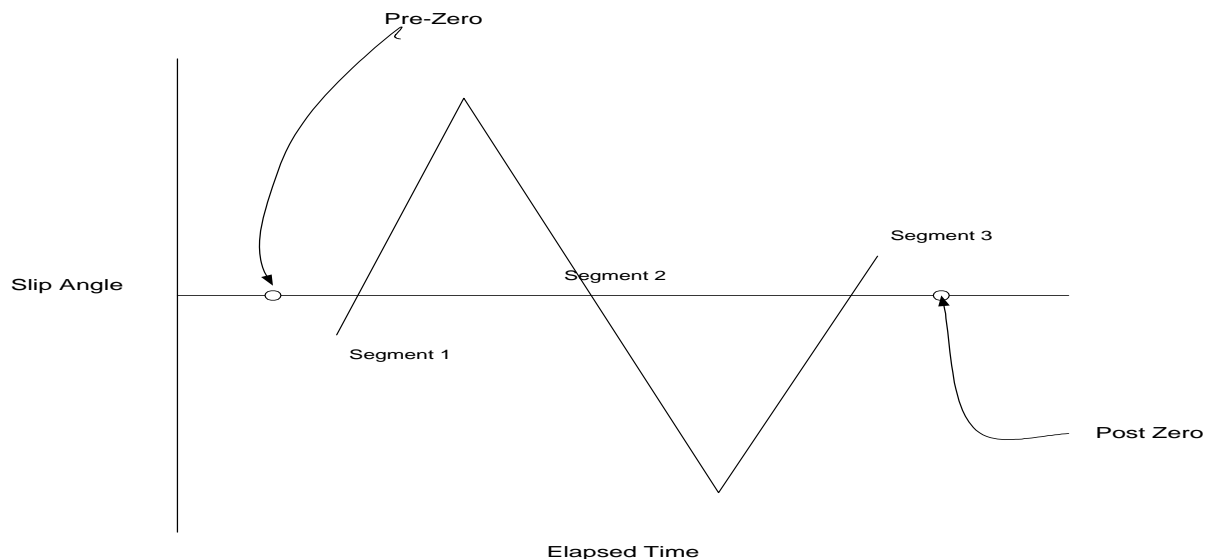
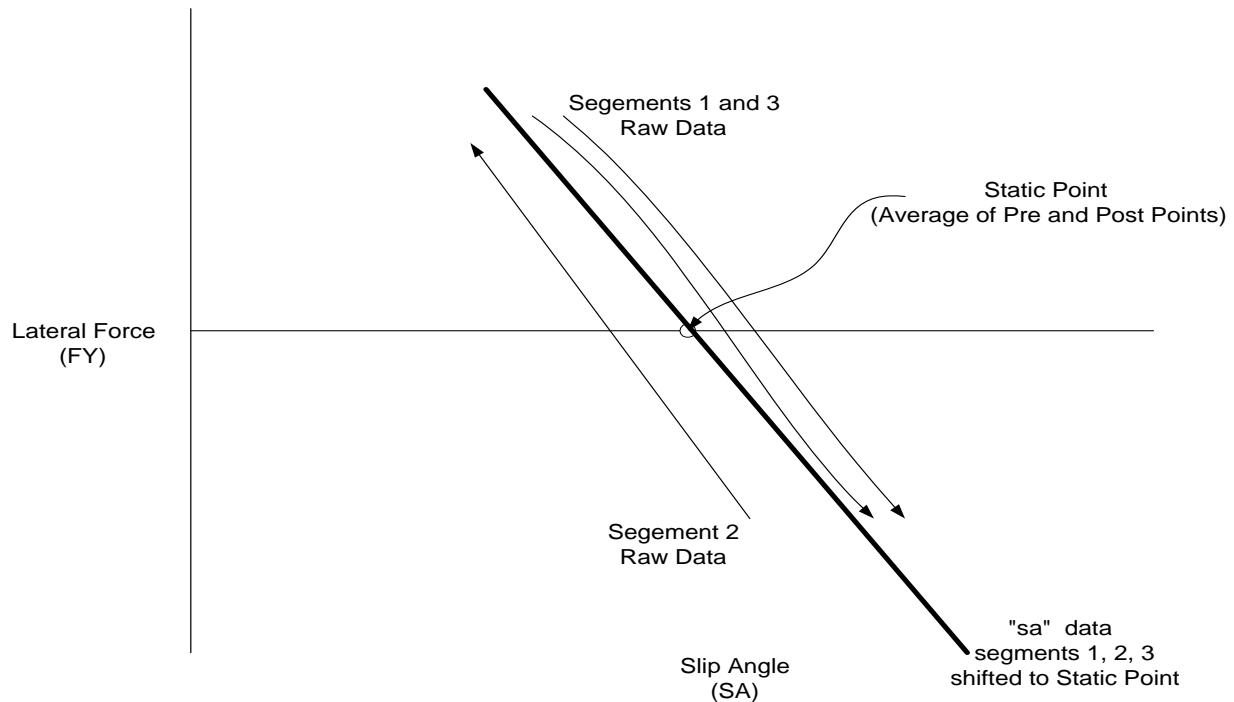

FIG 1.
FIG 2.
The TIRF “sa” program was developed to collapse a *hysteresis like* condition. This condition is seen in Slip Angle (SA) sweep testing (FIG 1.). An SA sweep crossing zero SA in both directions yields Lateral Force (FY) data on different lines when plotted against SA (FIG 2.). The separation between these lines increases as SA rate increases. SA points taken statically at 0 degrees will usually fall between the dynamic lines at Slip Angle of 0 degrees (FIG 2.).
Because some customers do not wish to work with this hysteresis like event, TIRF collapses it to coincide with the Static Slip Angle value (FIG 2.). The final outcome is a shift of the Slip Angle scale only. Following is an explanation of how the TIRF “sa” program works:
- Preceding each Slip Angle (SA) sweep several points are collected at SA = 0 deg. Pre-zero ( FIG 1.)
- Following each Slip Angle (SA) sweep several points are collected at SA = 0 deg. Post-zero (FIG 1)
- The Pre, Post-Sweep zeroes are averaged and are now called the Static point. ( FIG 2.)
- A linear curve fit is placed through the FY vs. SA data (+/-1 deg.) each time SA crosses 0 deg. ( FIG 2.)
- For each SA crosses 0 deg. segment, SA is shifted until the curve fit coincides with the Static point. ( FIG 2.)